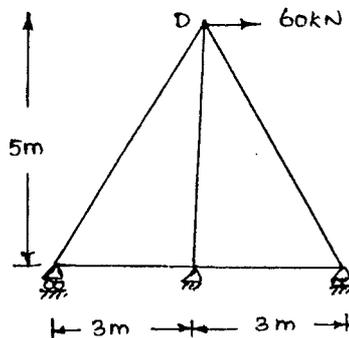

Fig. 4
- (b) Using matrix flexibility method analyse the truss loaded as shown in Fig. 4 and find the member forces. A and E are the same for all members.